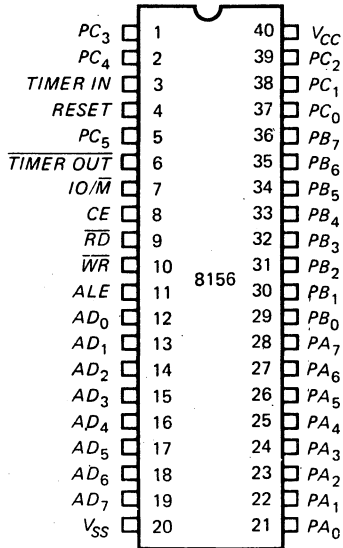

Fig. 15-27
- 15-1.** Refer to Fig. 15-27.